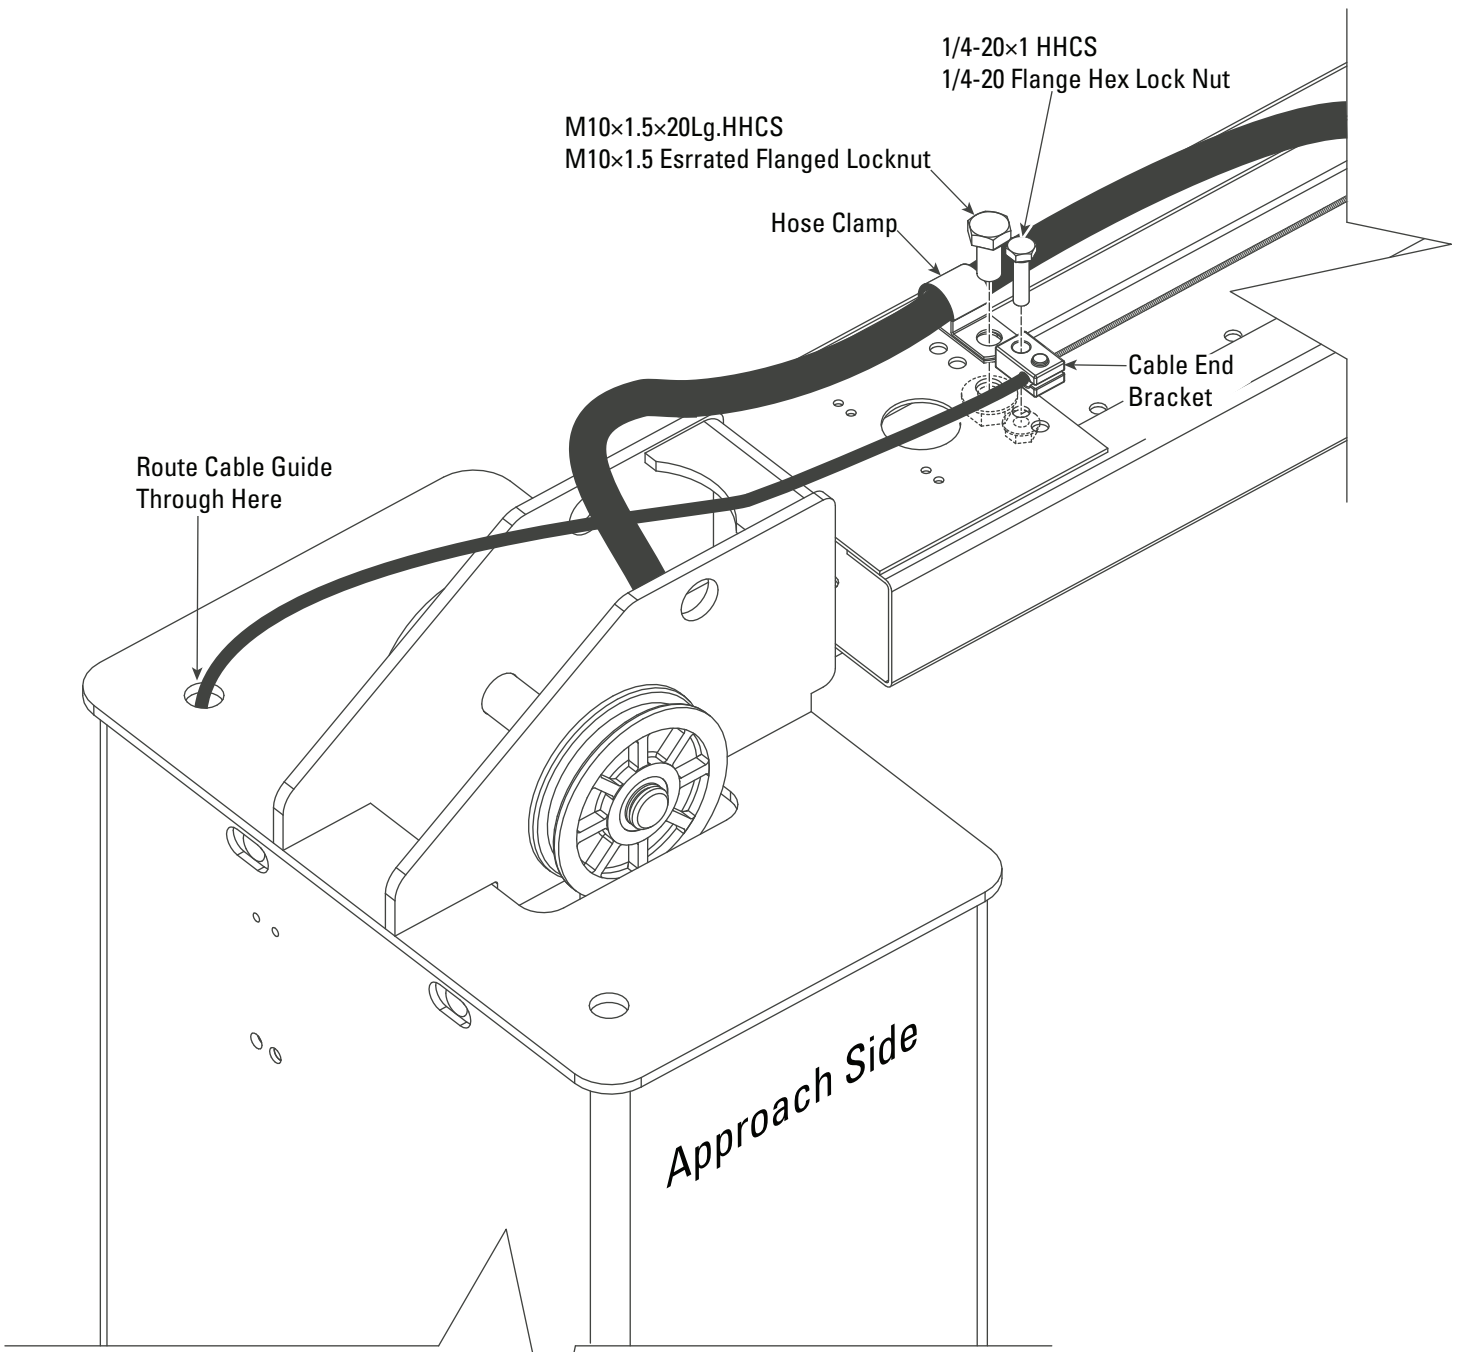
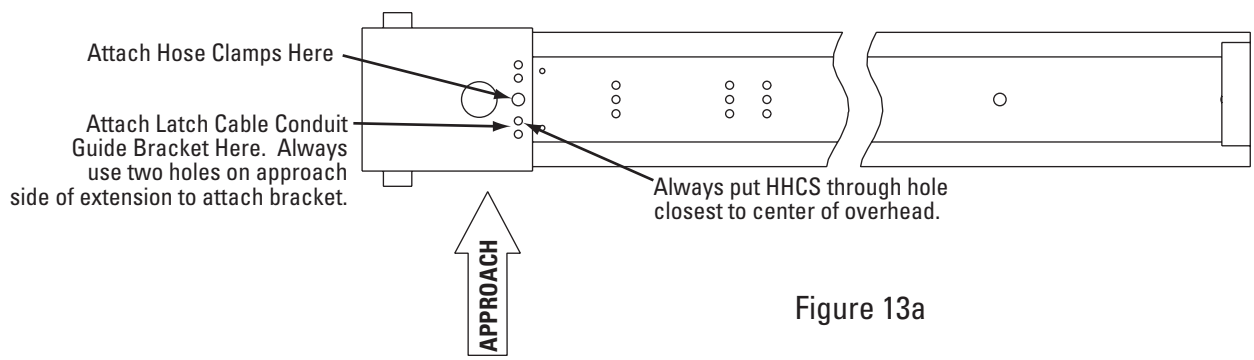
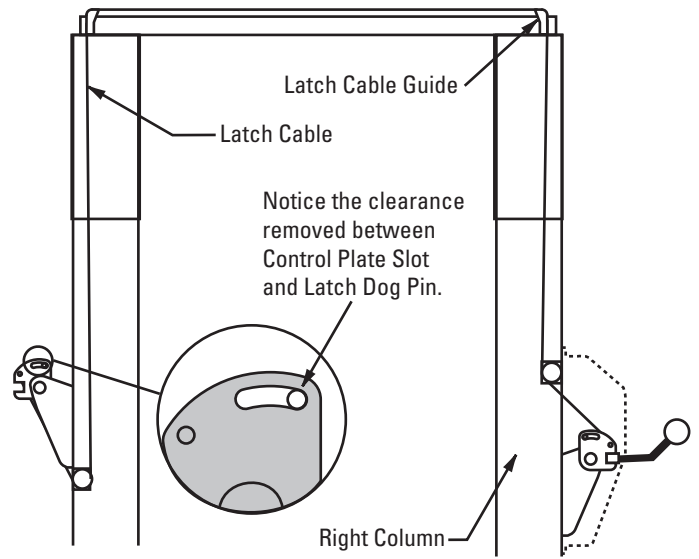
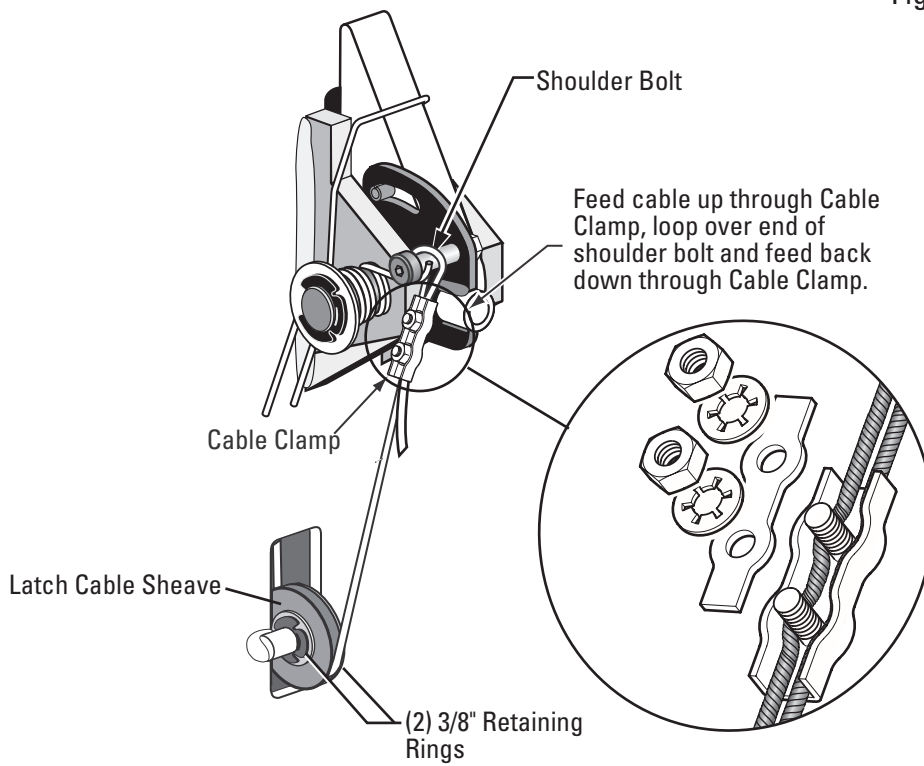

Figure 13
Figure 13a
Figure 15
Figure 16
- D) Attach latch cable conduit guide brackets to overhead as shown, Fig. 13 & Fig. 13a. Always use the holes on the approach side of the lift. HHCS should be in hole nearest the center of the overhead, Fig. 13a.
- E) Route cable up inside column and through the latch cable guide, Fig. 13a & Fig. 15.
IMPORTANT Using wire ties provided, tie off cable guide to column extension as shown, Fig. 13a. Guide must be attached in hole closest to the outside edge of the column on the NON-APPROACH side.
- F) Continue routing cable to the left column latch cable guide, Fig. 13 & Fig. 15, routing the cable through the left column latch cable guide, Fig. 13.
- G) Bring the cable down inside the left column and feed the end of the cable through the lower latch cable sheave slot so that the cable is now back outside the column, Fig. 16.
- H) Install latch cable sheave and retaining rings in lower slot of non-power unit column as shown, Fig. 16.
- I) Route cable under the bottom side of the latch cable sheave, Fig. 16.
- K) Insert cable in cable clamp along one side, loop around shoulder screw and back down, inserting cable along other side of cable clamp, Fig. 16. Place top back on clamp, barely tightening.
- L) Next, pull the control plate down, Fig. 15 & Fig. 16, to eliminate any clearance between the control plate slot and the latch dog pin, Fig. 15.